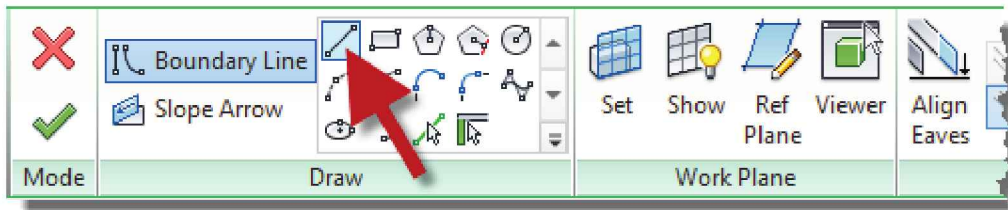

FIGURE 6-1.5 Ribbon: Roof tool active
17. Select the **Line** tool from the *Ribbon* (Figure 6-1.5).
23. With **Defines slope** checked in the *Options Bar* (Figure 6-1.5), pick the three exterior walls at the stair shaft.